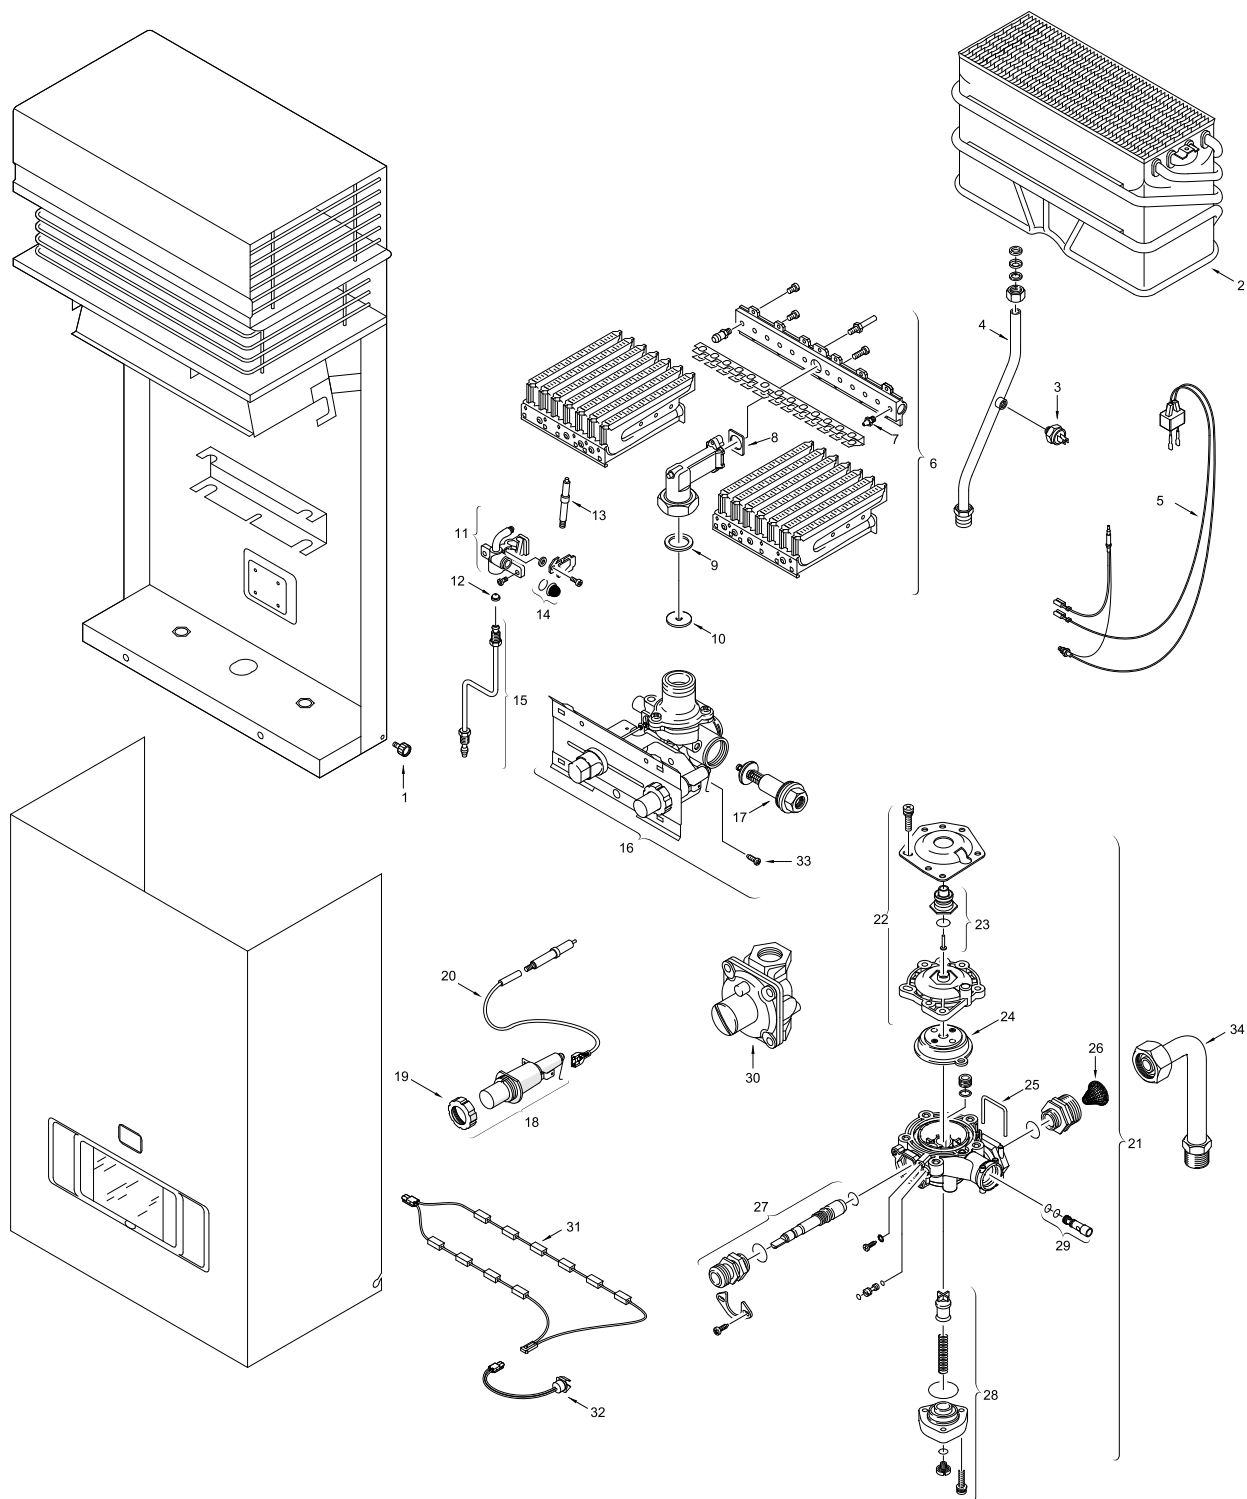

Fig. 13 Components Diagram
A more detailed instruction is available on our website at [www.boschhotwater.com](http://www.boschhotwater.com). Shut off all water to the unit and disconnect water pipe going to the back of the water valve. Disconnect water pipe going to heat exchanger by removing pin and pulling pipe out. Loosen two set screws at the base of the gas valve and drop the water valve down. Separate the two halves by removing 5 screws on the top of the water valve. Apply lithium or faucet and valve grease to the pushrod (see Fig 13, pos. 23). Inspect and clean the venturi (see Fig 13, pos. 29).